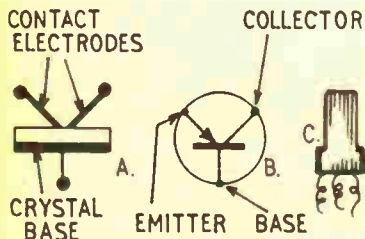
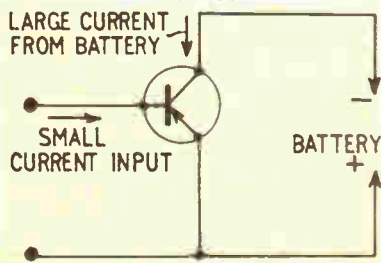

Fig. 1—The transistor
Fig. 2—Transistor amplifier
Start by making the framework of the table. This should be made from planed timber 4ins. by $\frac{3}{4}$ in., and is illustrated in Fig. 1. Cut two side pieces 2ft. long and two ends 1ft. 6ins. long. These should be fitted together to form a rectangular frame 2ft. by 1ft. 6ins. Readers who are familiar with making dovetail joints should use this type of joint at the corners. If, however, you do not feel too confident about making dovetails, then use open housing joints as shown in Fig. 2. This type of joint will be strong enough for this job, for you will see later on that each corner is strengthened by a triangular blocking piece. When fixing the framework members together, apply a
After this, mark a line around the framework to divide it into two as shown by the dotted line in Fig. 1. Using a fine toothed tenon or dovetail saw, cut along this line, keeping your saw as flat as possible to prevent ragged edges forming on the inside edge. The sawn edges should be carefully smoothed off and glasspapered. Ensure that the two portions of the table fit accurately
shown at (A) in Fig. 1. If a suitable circuit is being followed, the constructor need not concern himself with the kind of transistor, though such information may be wanted in experimental testing.
(B) in Fig. 1 shows the usual transistor symbol, the emitter resembling an arrow. The signal to be amplified may be applied to either base or emitter. The amplified signal then appears in the collector circuit.
Fig. 2 shows a transistor as amplifier, with battery positive to emitter, and negative to collector. In this case a small signal is being applied to the base, causing a large collector signal. This could be heard by wiring phones or a speaker in series with the battery circuit.